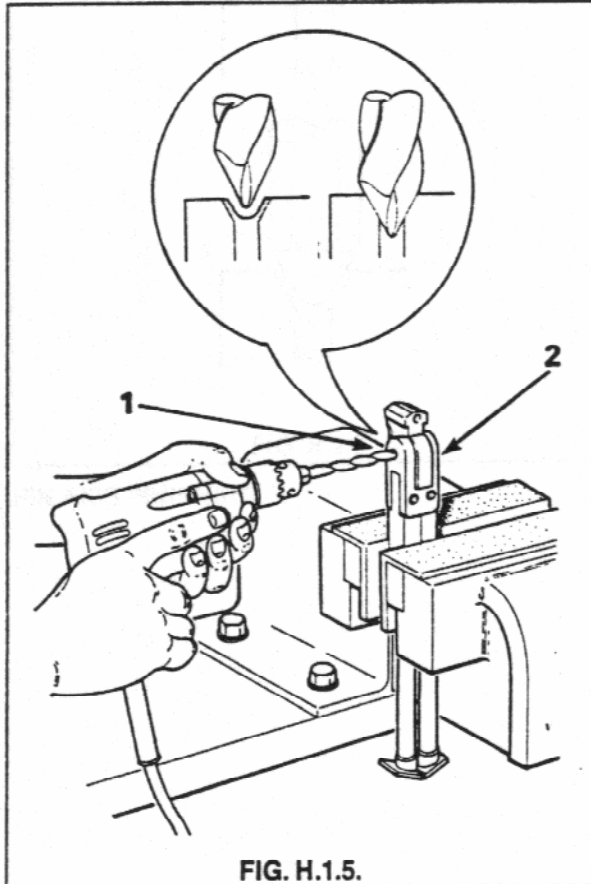

FIG. H.1.5.
3. Support the assembly and drill off the head of the bipod axis pin using a 5,93 mm diameter twist drill. Remove the remains of the axis pin using a suitable punch and a hammer. Fit serviceable connector and new axis pin and form ends on axis pin. See Fig. H.1.5.